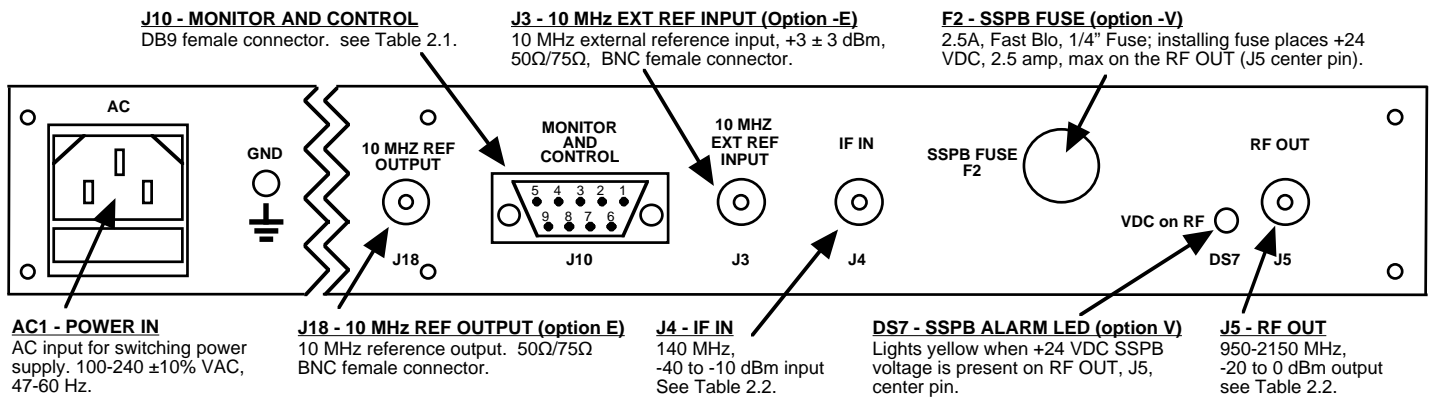

FIGURE 2.2 Rear Panel Inputs and Outputs
Figure 2.2 shows the input and output connectors on the rear panel.
1. Connect a -40 dBm to -10 dBm, 140 MHz signal to IF IN, J4 (Figure 2.2)
Alarm indications appear on the LEDs (see figure 2.2).